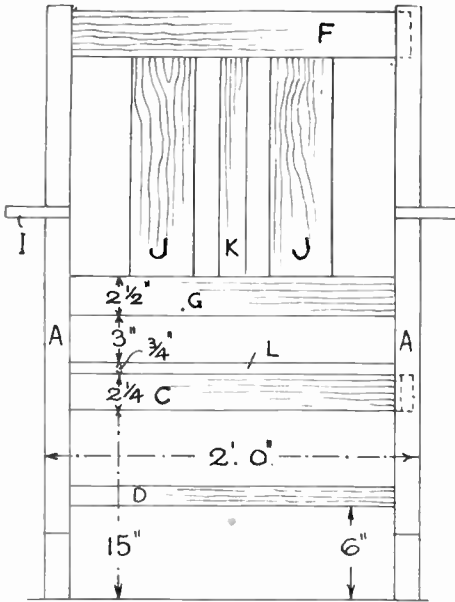
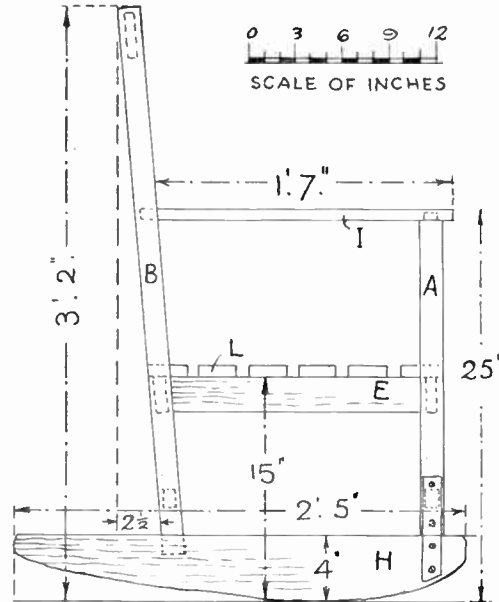

Fig. 1—Front view showing rails and back struts
Fig. 2—Side view with shape of rocker parts
In Fig. 1 we have a front view of the chair giving the various heights and spacings of the rails, etc. The side view (Fig. 2) is very helpful, as it gives all the necessary sizes from which to work when setting out the sloping back of the chair and the rockers.
In the side view of the chair (Fig. 2) is seen how the upright and rocker can be strengthened, indeed this is rather important, for the sake of firmness when rocking. A stout metal plate about 6ins. long is drilled in four places and screwed with countersunk screws as shown. The back legs (B) run at an angle with the top edge of the rocker